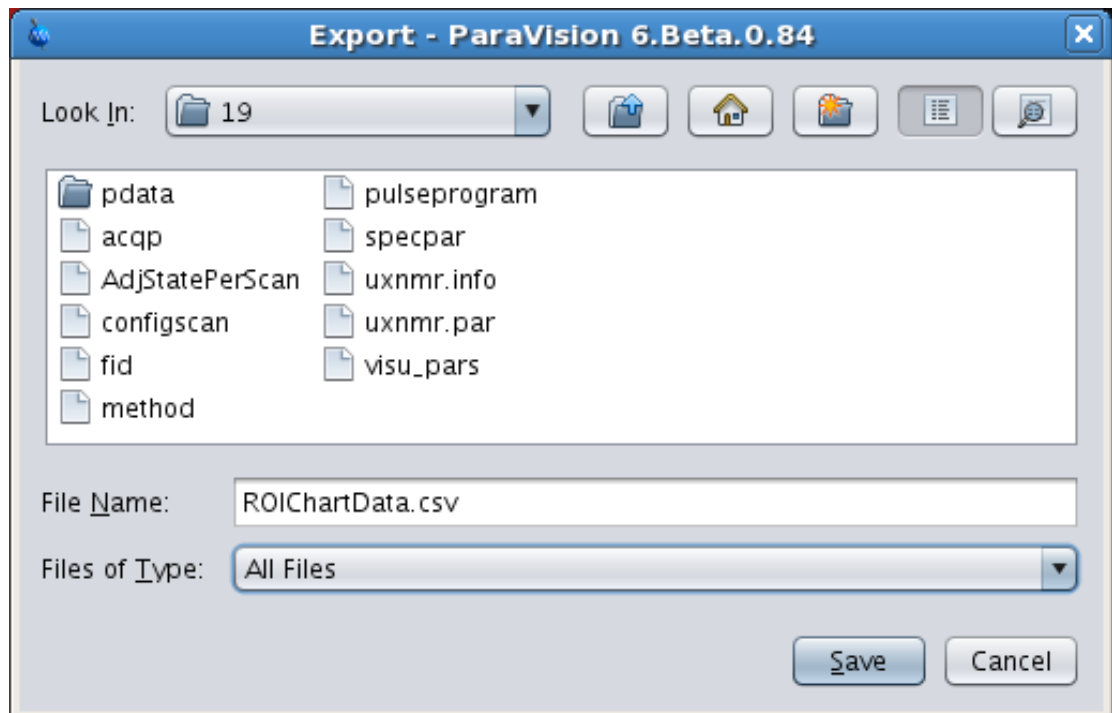

Figure 1.137: Export Chart Data
- An export dialog appears (see [Figure 1.137 \[p 159\]](#)).